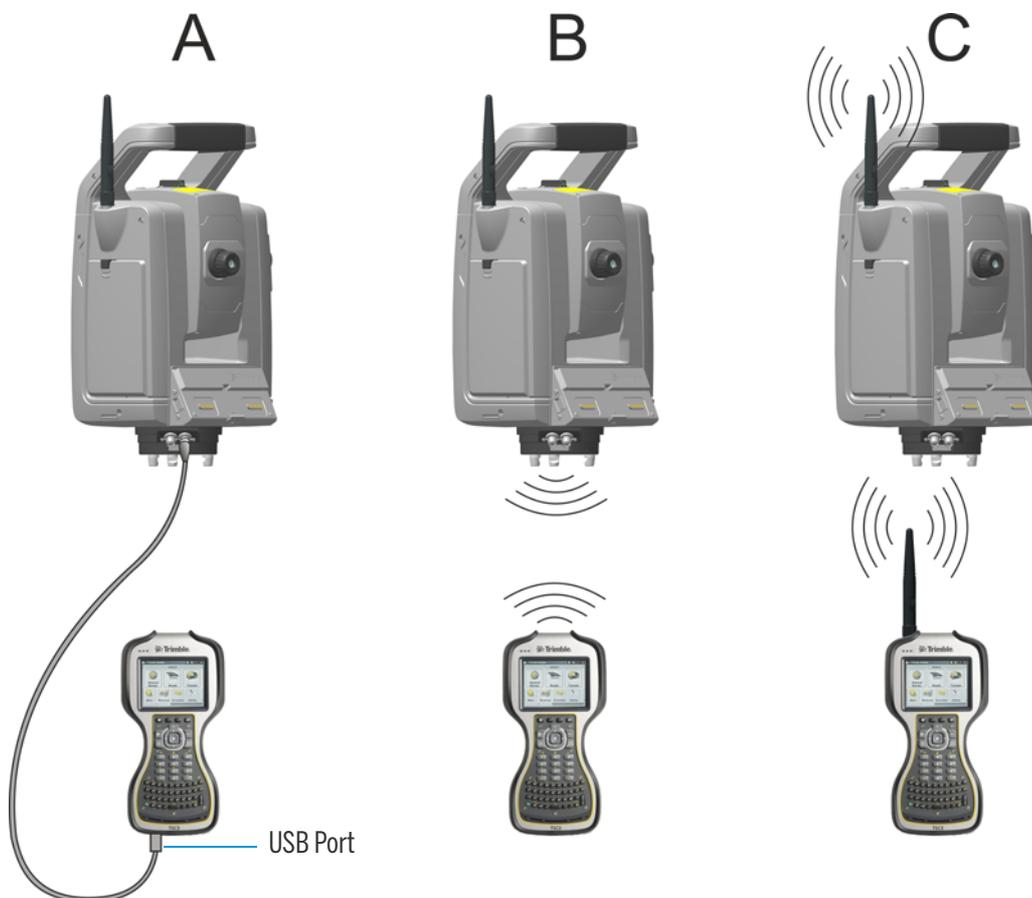

Figure 3.17 Connecting the TSC3 to the instrument
- In the TSC3 field software when the TSC3 is connected to the instrument with a cable, see Figure 3.17